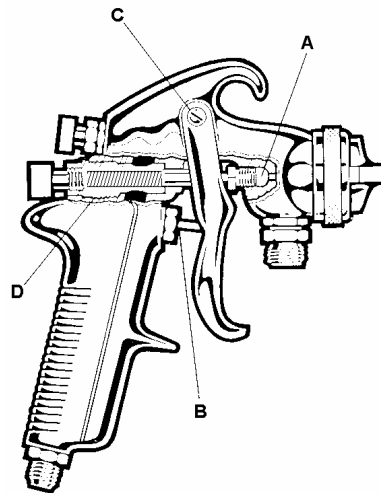

Figure 22 - Lubrication Points
After cleaning a spray gun in a gun cleaner, be sure to lubricate as indicated in Figure 22.
40. What parts of the gun require lubrication? (Figure 22)